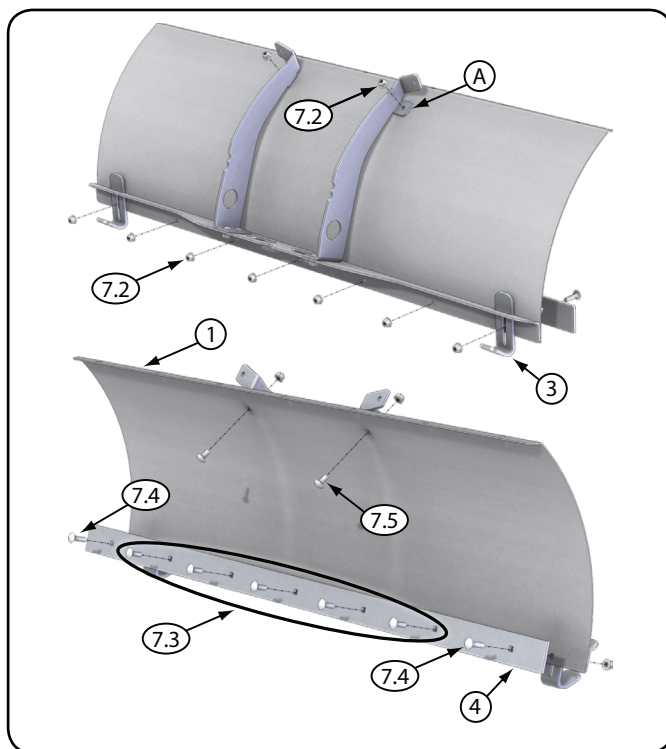

Figure 2 - Cutter Blade, Frame and Feet Install
2. Attach the blade frame assembly to the blade in location (A) using $\frac{5}{16} \times \frac{3}{4}$ in. (7.9 × 19.1 mm) short neck carriage bolts (7.5) and nuts (7.2). See Figure 2.
3. Next attach the wear bar (4) to the plow blade (1) by installing the five $\frac{5}{16} \times 1$ in. (7.9 × 25.4 mm) standard carriage bolts (7.3) in the center through the cutter blade (4), plow blade (1) and support bracket (2). Secure the carriage bolts with $\frac{5}{16}$ in. (7.9 mm) nuts (7.2). See Figure 2.
4. Install the blade feet (3) as shown in Figure 2 using the $\frac{5}{16} \times 1\frac{1}{4}$ in. (7.9 × 31.8 mm) standard carriage bolts (7.4).